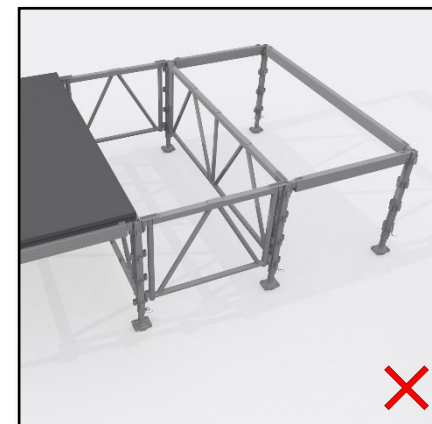
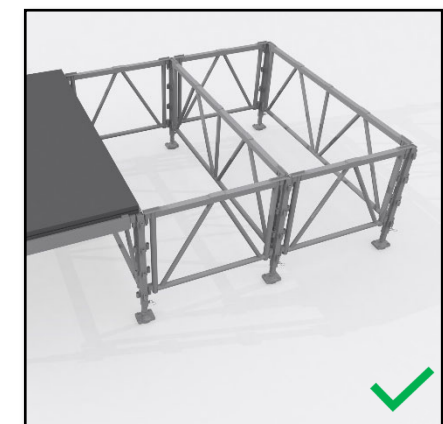

Fig 29 – End bay of Beams
Fig. 28 – End bay of Gates
9.1.7.10 **Important:** If the last bay ends up as 4' Beams then they must be switched out to 4' gates to correctly support the Node Post. *Fig 29 – End bay of Beams & Fig. 28 – End bay of Gates*
9.1.8.10 **Important:** If the last bay ends up as 8' Beams then they must be switched out to 8' gates to correctly support the Node Post. *Fig 29 – End bay of Beams & Fig. 28 – End bay of Gates*